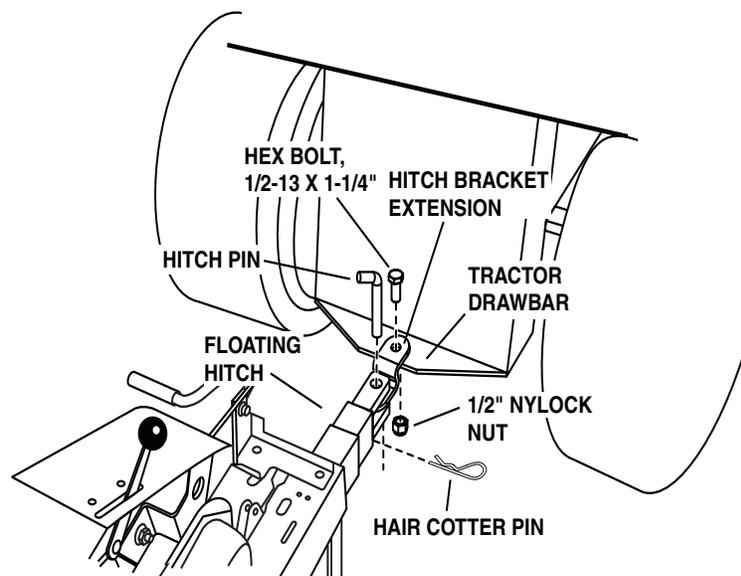

Figure 5
2. Attach the Hitch Bracket Extension to the SMOOTH-TRAK™ Hitch of the Tiller using a Hitch Pin and the Hair Cotter Pin (Figure 5).
NOTE: The Hitch Bracket Extension can be attached as shown in Figure 5 or turned upside down for Tractors with lower Draw Bars.